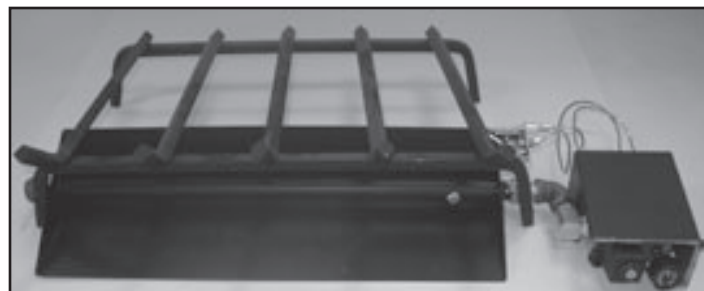

Figure 4.2 Center Grate Over Burner Pan
- The grate should be centered over the burner pan, side to side. If the grate sits toward the front of the burner pan, the flames will be larger coming through the logs. If the grate sits toward the back of the burner pan, the ember bed will be more prominent. Refer to Figure 4.2.